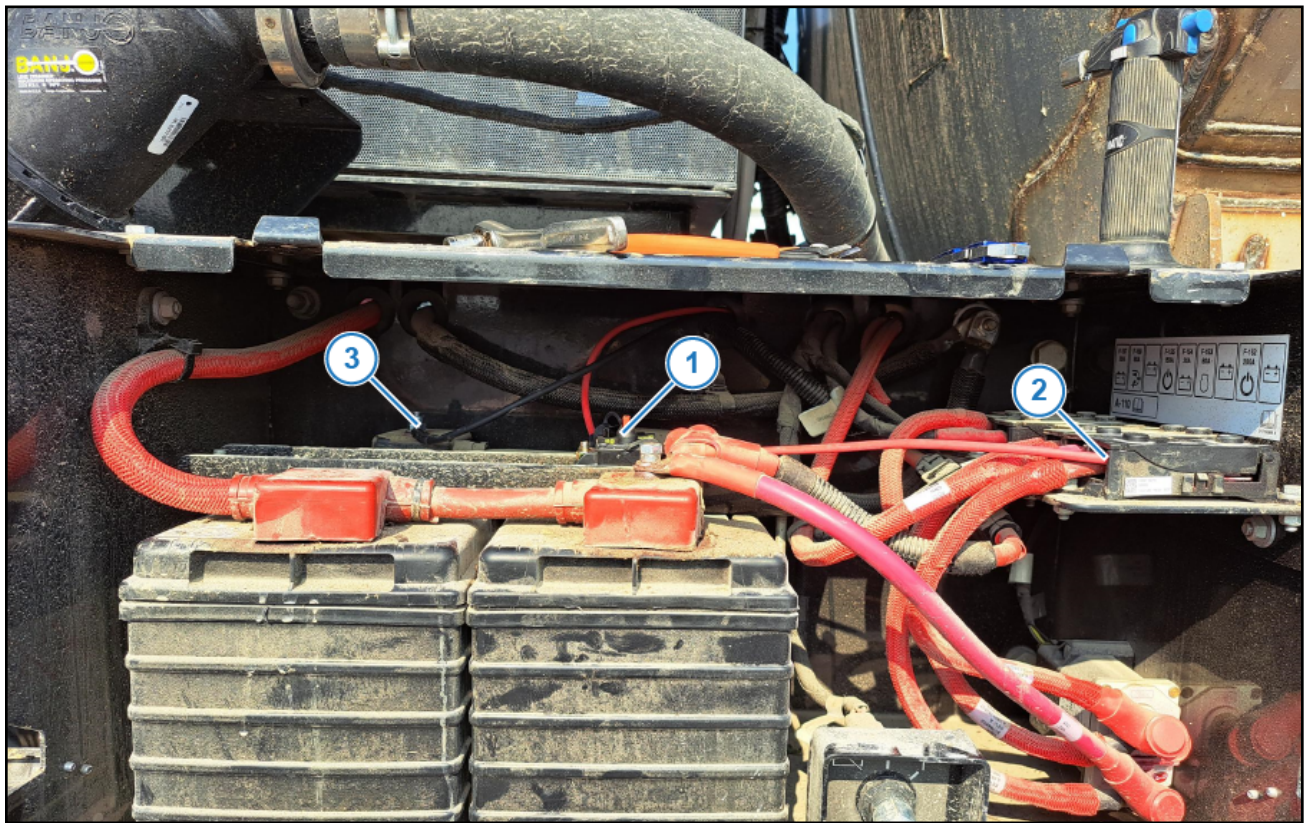

Figure 11: Power Harness Connections
18. Install the circuit breaker box (Figure 11, Item 1) in line with the positive cable and connect it to the positive lug on the machine power distribution block (Figure 11, Item 2) as shown.
19. Connect the negative cable (Figure 11, Item 3) to the ground lug on the machine battery or other suitable ground location in the battery box area.